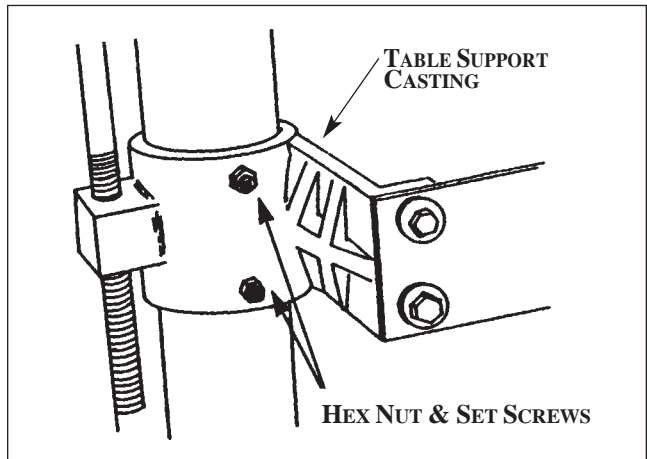
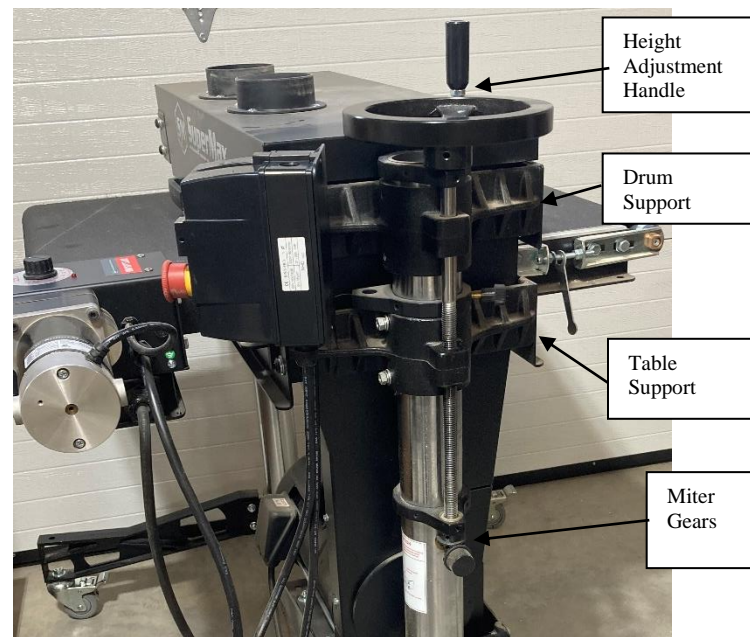

Fig. 3. Table support casting and setscrews.
Fig. 9. Table height adjustment.
2. Loosen the hex nut and set screws on the table support castings (Fig. 3). The set screws on the table support castings have been tightened at the factory to eliminate free-play between the table support casting and the column tube during shipment. There are two table support castings on the SUPERMAX, one each for the right and left column tubes. Important: These set screws are tightened for shipping and must be loosened and readjusted before operating either the height adjustment mechanism or the conveyor drive.
The depth of cut is controlled by the height adjustment handle (see Fig. 9). Turning the handle raises or lowers both sides of the conveyor table simultaneously by transferring the handle rotation through the miter gear and cross bar assembly.
Important: Before using the height adjustment, be sure to loosen both of the set screws located on the front of both table support castings (see Fig. 3 and Fig. 9) to allow the table support to slide on
both column tubes. These set screws are tightened for shipping and must be loosened and readjusted to allow the table support castings to move freely on the column support tubes. Readjust the set screws so they eliminate free-play between the table support casting and the column tube. To properly adjust, tighten the set screws (see Fig. 3) only finger-tight so they lightly touch the column tubes. Then hold each set screw in position with a hex wrench and tighten the nut.